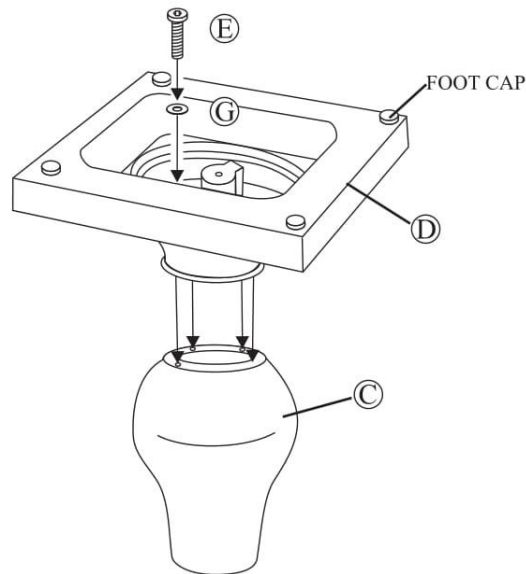

Fig.1
Step 2: Attach the bottom base to the middle base by using the four 1/4"x30 mm bolts and washers as shown in **Fig.1**. Guide the bolt through the holes in bottom base and into the pre-drilled holes in the middle base. **Do not over tighten.** With the help of another person, turn the table base assembly in the upright position.